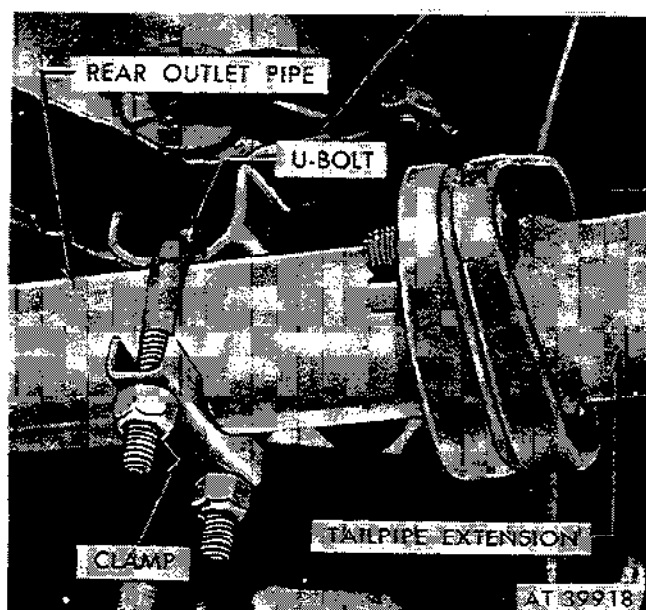

Figure 2-130. Remove rear outlet pipe and tailpipe extension from vehicle.
Remove rear outlet pipe and tailpipe extension from vehicle. Discard front outlet pipe to rear outlet pipe gasket (M151, M151A1, M151A1C and M718 only) (fig. 2-130).
(4) Remove U-bolt and clamp retaining rear outlet pipe to frame. Remove rear outlet pipe and tailpipe extension from vehicles. Discard front outlet pipe to rear outlet pipe gasket (M151A2, M825 and M718A1 only) (fig. 2-130).
(5) Remove tailpipe extension from rear outlet pipe (para 2-60).
b. Installation. Install rear outlet pipe by reversing removal operations. Refer to figures 2-130 back through 2-128. Torque the following parts to the values shown: